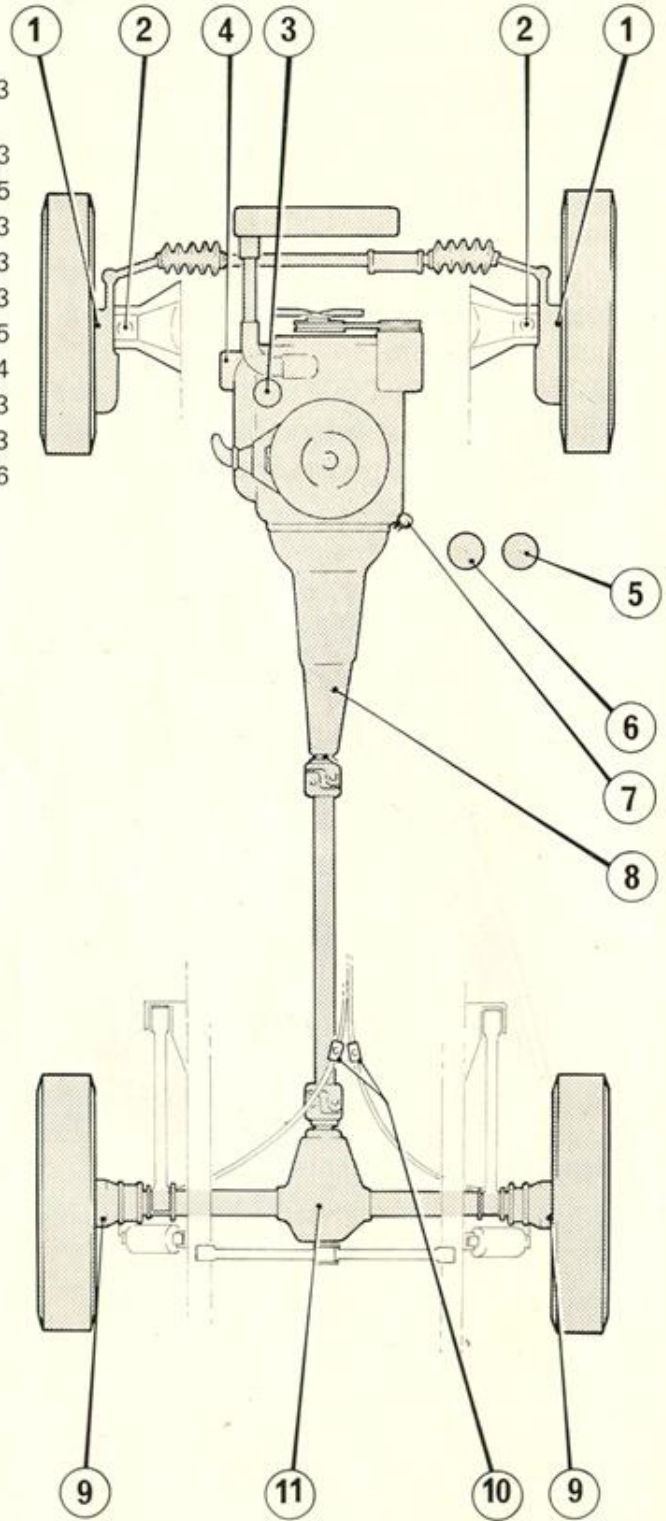

Figure 48 Lubrication points
The rear axle hub bearings should be greased at 600 miles (1,000 km) and thereafter at every 3,000 miles (5,000 km), three strokes of the grease gun are sufficient, see (9) Figure 48. Two lubricating nipples are located on the handbrake cable linkage, two strokes of the grease gun every 3,000 miles (5,000 km) see (10) Figure 48.
Key to Figure 48